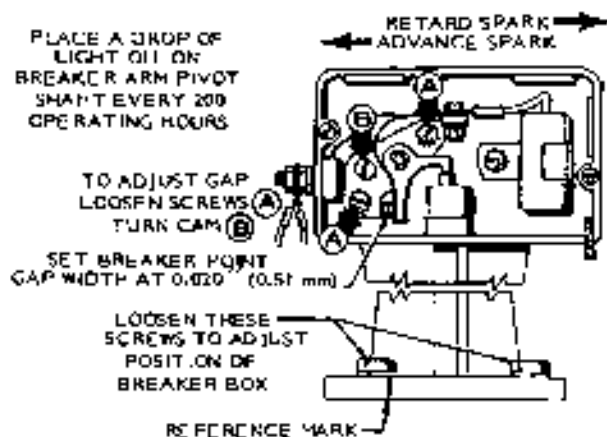

FIGURE 10-39. BREAKER POINTS
1. Remove breaker box cover, Figure 10-39.
5. Turn point adjusting cam screw (B) until point gap is .020 inch (0.51 mm) and tighten mounting screws (A) as shown in Figure 10-39